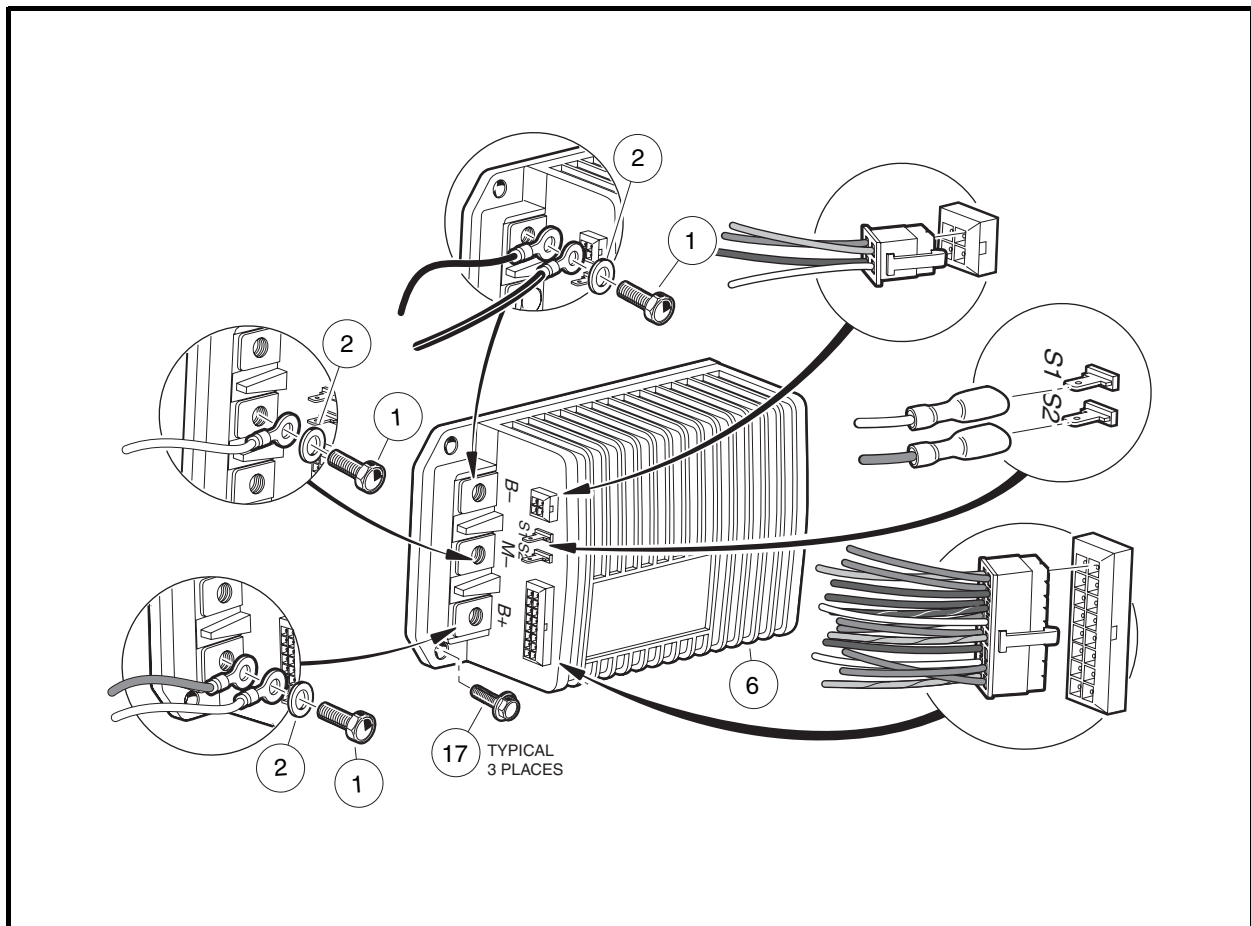

Figure 13-8 Speed Controller
4. Disconnect all wires and multi-pin connectors from the speed controller (**Figure 13-8, Page 13-10**).
5. Remove the three self-tapping screws (17) that hold the controller (6) to the component mounting plate and remove the controller from the vehicle.
1. Install the three self-tapping screws (17) that hold the controller (6) to the component mounting plate and tighten to 60 in-lb (6.8 N·m) (**Figure 13-8, Page 13-10**).
2. Using the wiring diagram, install the multi-pin connectors and all wires as illustrated. **See Wiring Diagrams, Section 11, Page 11-2.** Tighten bolts (1) to 9 ft-lb (12.2 N·m) (**Figure 13-8, Page 13-10**).